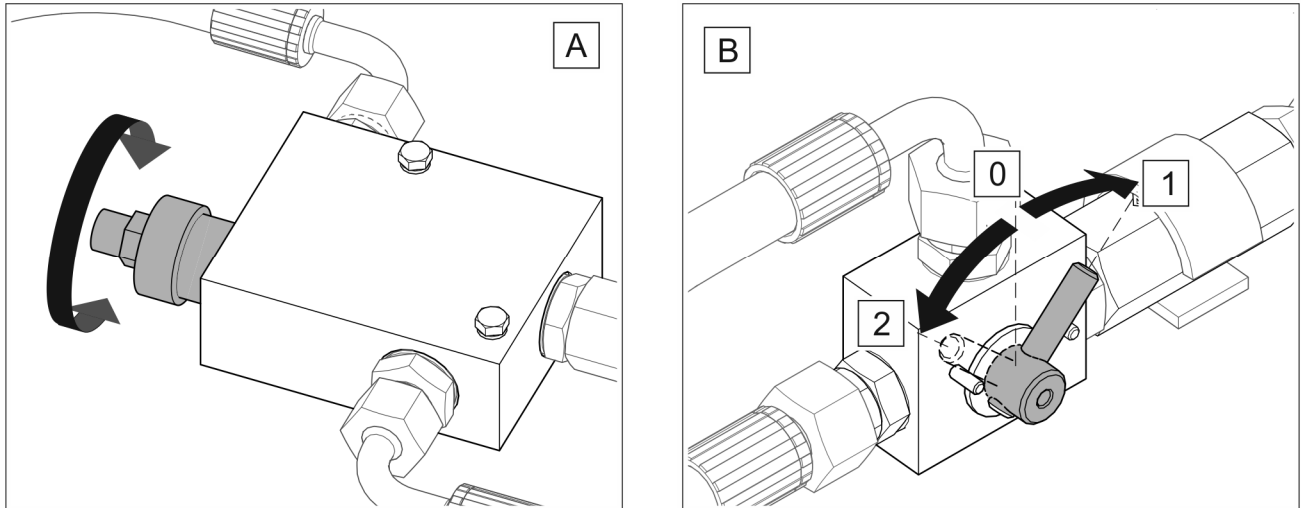

FIG. 5.7 Side brush drive flow regulator selective control valve
The sweepers with side brush (FIG. 5.7) are equipped with oil flow regulator (A) for smooth adjustment of the side brush rotation speed. Rotation speed is controlled using the knob on the oil flow regulator.
Distributor (B) (FIG. 5.7) makes it possible to: